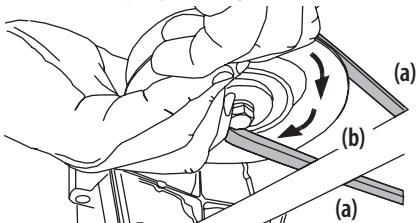

Figure 43
- d. While still holding the PTO belt (a) downward, continue turning the PTO pulley (b) until the PTO belt (a) is rolled off the PTO pulley (b). See Figure 43.
- Pull the right side of the PTO belt rearward and place the narrow V-side of the PTO belt into the PTO pulley. See Figure 43.
- While holding the PTO belt and PTO pulley together, rotate the PTO pulley to the left (See Figure 43 on page 28). Continue holding and rotating the PTO pulley and PTO belt until the PTO belt is fully rolled into the PTO pulley.